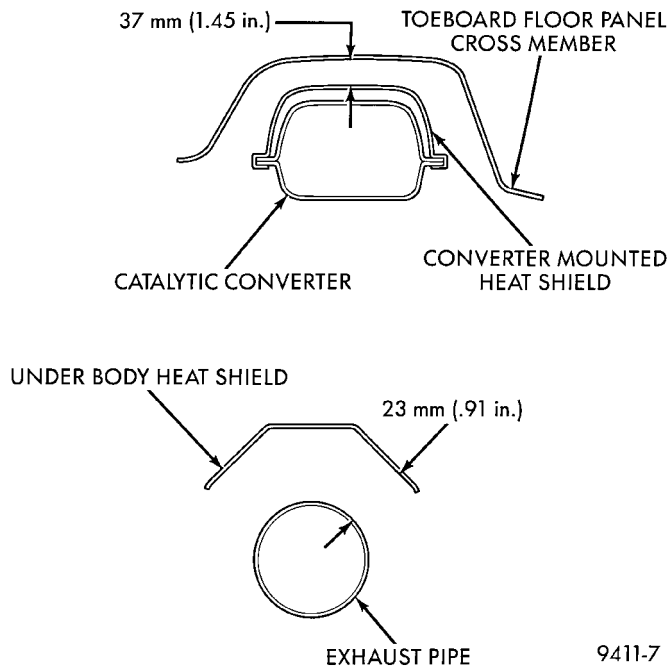

Fig. 9 Exhaust Clearance
- (6) Align each component to maintain position and proper clearance with underbody parts and tighten clamps to specifications (Fig. 9).